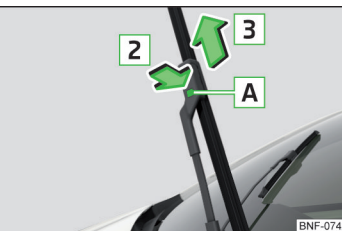

Fig. 132 Windscreen wiper blade
- Lift the wiper arm from the windscreen in the direction of arrow **1** » Fig. 132.